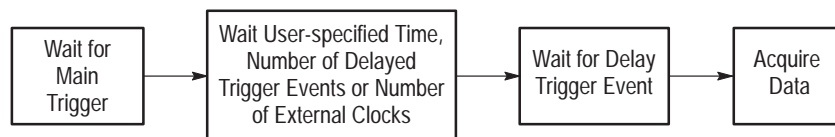

Figure 3-5: Delayed Triggerable
*Delayed triggerable* looks for a main trigger and then, depending on the type of delayed trigger selected, makes one of the types of delayed triggerable mode acquisitions listed below (see Figure 3-5).